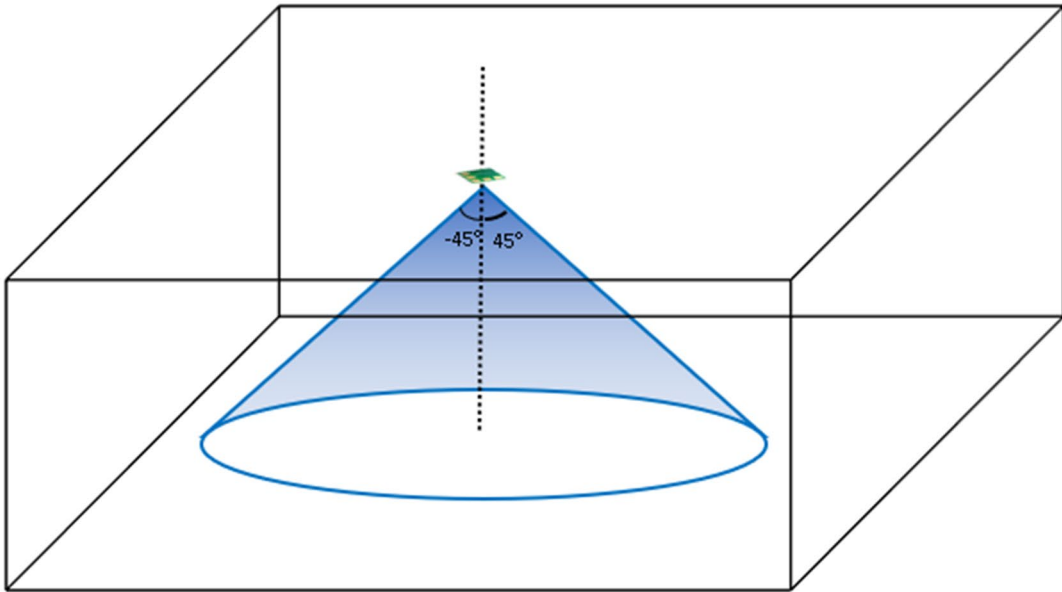

Figure 8: surveyed area when min angle and max angle are set to  $-45$  and  $45^\circ$
- Min angle, Max angle: The minimum and maximum angles set in Figure 7 are used to restrict errors when the tags move close to the border of the surveyed area. These parameters provide the constraints for the reported angle. The surveyed area appears to be a cone shape. When min angle and max angle are set to -45 and 45°, the surveyed area is shown as in Figure 8.